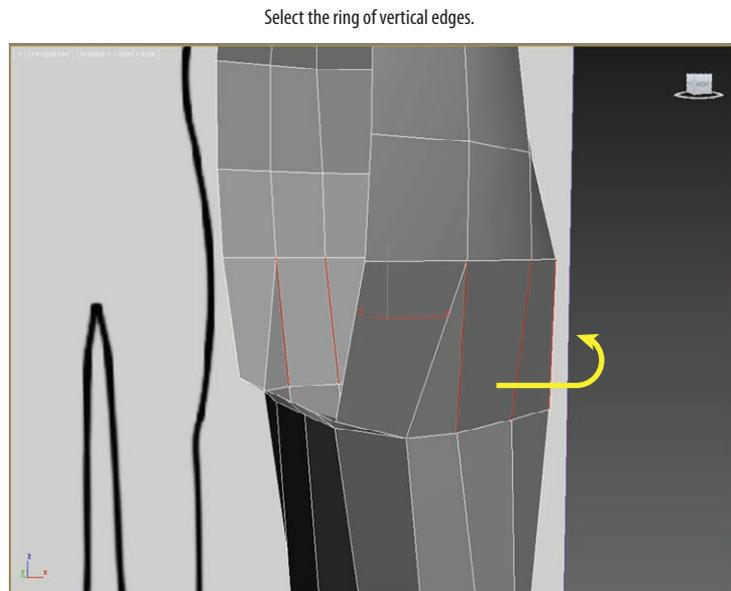

FIGURE 7.30 Select a single edge at the pelvis area and use Ring to prepare for Collapse.
1. Select the vertical edges at the waist (select a single vertical edge and then on the Graphite Modeling Tools tab > Modify Selection panel, click Ring), as shown in Figure 7.30.